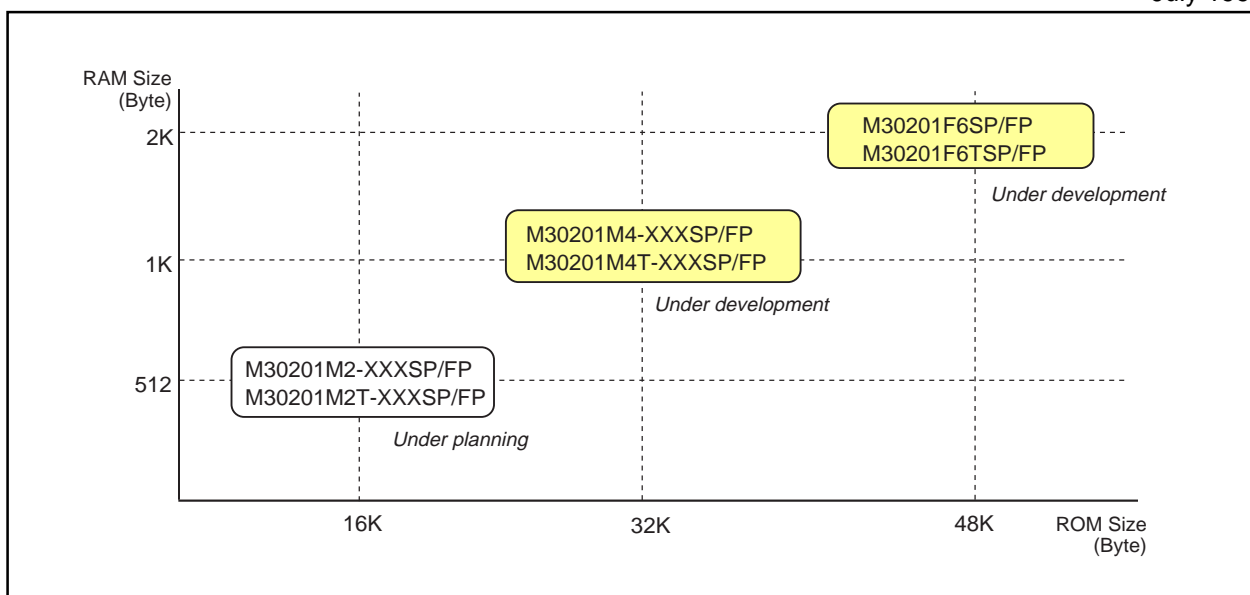

Figure 1.4. ROM expansion
- Memory capacity ROM/RAM (See figure 1.4. ROM expansion.)